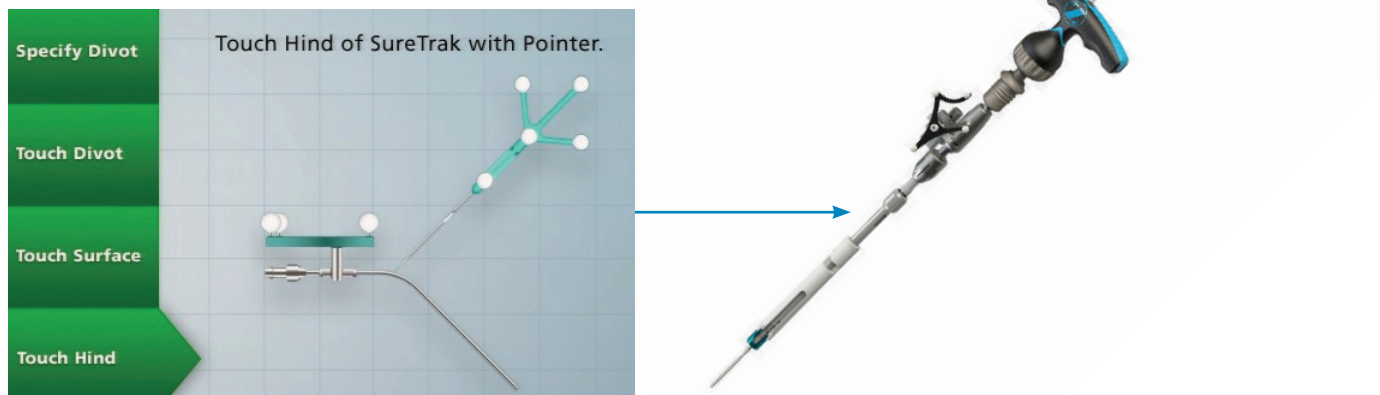

Figure 12
- **Step 4** - Touch hind of the assembled Zimmer Biomet instrument with a SureTrak array with pointer (Figure 12).